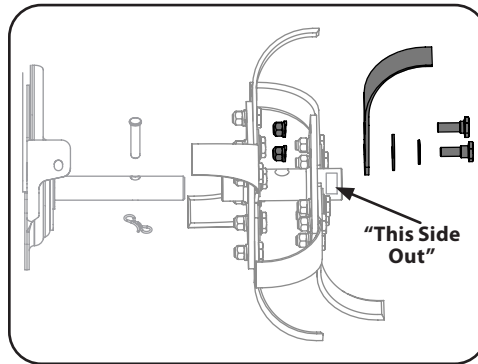

Figure 4-8
1. Remove the top hardware from the articulating tine. This consists of a shoulder screw on the outer side of the unit, and a lock nut and lock washer on the inner side of the unit. See Figure 4-8
2. Remove the lower hardware from the lower hole of the articulating tine. This consists of a shoulder screw, Belleville washer and larger flat washer on the outer side of the unit, and a lock nut and lock washer on the inner side of the unit. See Figure 4-8